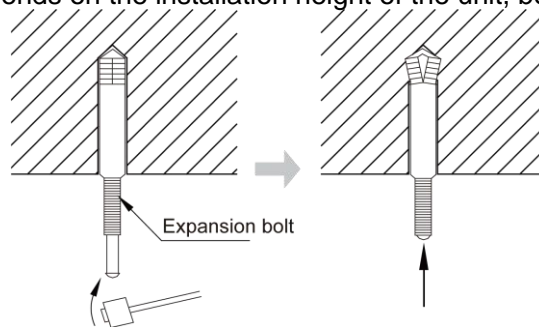

Fig 4.1.5
- 2) Insert the M10 expansion bolt into the hole and then knock the nail into the bolt, as shown in fig 4.1.5.